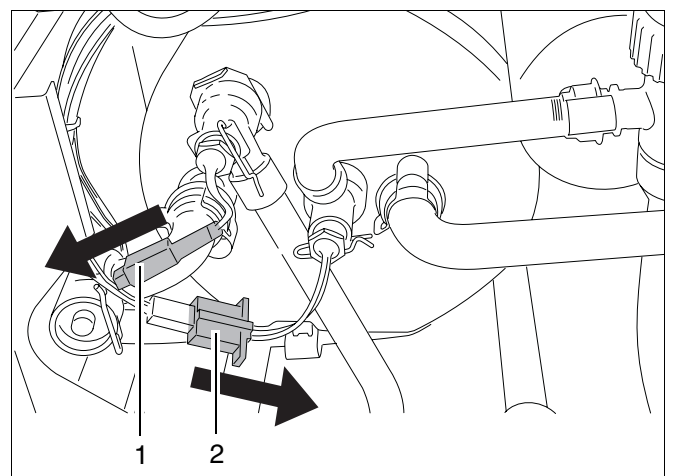

fig. 78 Disconnect plugs of hot water sensors
- Disconnect the plugs of the hot water out flow sensor (fig. 78, item 1) and the hot water heat retaining sensor (fig. 78, item 2).